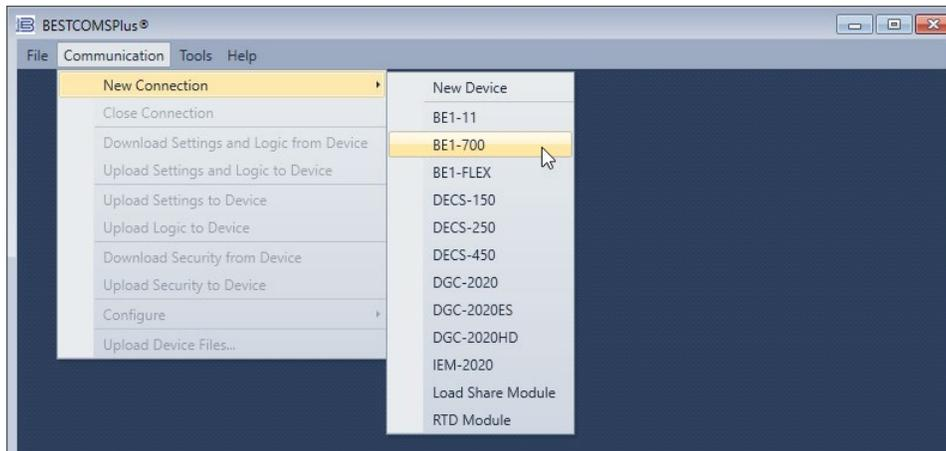

Figure 2-2. Communication Pull-Down Menu
The BESTCOMSP_{Plus} platform window opens. Select New Connection from the Communication pull-down menu and select BE1-700. See Figure 2-2.
- Step 1: Start *BESTCOMSPPlus* and select New Connection, BE1-700 from the Communication pull-down menu to connect to the BE1-700. See Figure 2-2.